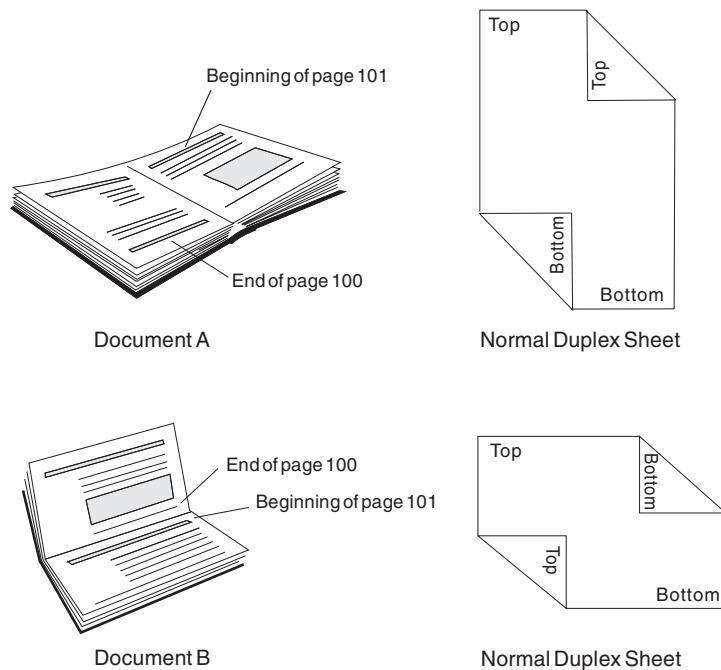

Figure 22. Duplex Documents A and B, Specified as Normal Duplex
- If the sheets are to be bound on the long edge of the paper, as Document A and Document B are in Figure 22 on page 55, specify *normal duplex*.
Figure 22 on page 55 shows Document A and Document B printed with normal duplex. Notice that the pages are printed in the *portrait position* for Document A and in the *landscape position* for Document B.